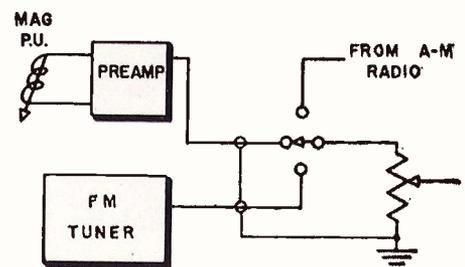

Fig. 4.—Connections necessary when magnetic pickup is used with preamplifier, either as a separate unit or when built into the receiver chassis.
As is well known, all crystal cartridges require equalization of the high-frequency end of the spectrum to reproduce records properly. If the FM tuner does not have sufficient de-emphasis, and in addition, some high-frequency boost is built into the receiver for the pickup, it is obvious that FM programs will be equalized far too much. The usual circuit for equalizing a crystal pickup is shown at (A) in Fig. 3. The values for  $R_1$  and  $R_2$ , and for the capacitor  $C_1$  vary considerably, but  $R_1$  is generally of the order of 1.0 megohm,  $R_2$  about 0.27 megohm, and  $C_1$  from 50 to 250  $\mu\text{f}$ . To obtain best results, therefore, the pickup equalization should be removed from the receiver chassis and installed between the crystal and the jack on the tuner, as shown at (B). With this change, both FM and phonograph should be operating under optimum conditions, and the owner should be better pleased with the results. If the phonograph should happen to employ one of the newer types of magnetic pickups, it is absolutely essential that an extra input be provided so that the output from the tuner does not go through the equalized preamplifier required for the low-level pickup. Such a connection would result in too much bass response, and too much overall gain. The proper place to connect the output of the FM tuner is just ahead of the volume control, in a manner similar to that shown in Fig. 4.
Fig. 4—Put spacer or shim on inside of voice coil. Be sure voice coil leads are in vertical position. Apply cement to spider mounting surface and put voice coil and shim over pole piece. Be sure spider is level.
On outside spider types, such as 2 point and 3 point cone types, follow instructions given except that you do not cement the spider, as directed in Fig. 4. Screw spider down and center as directed above.